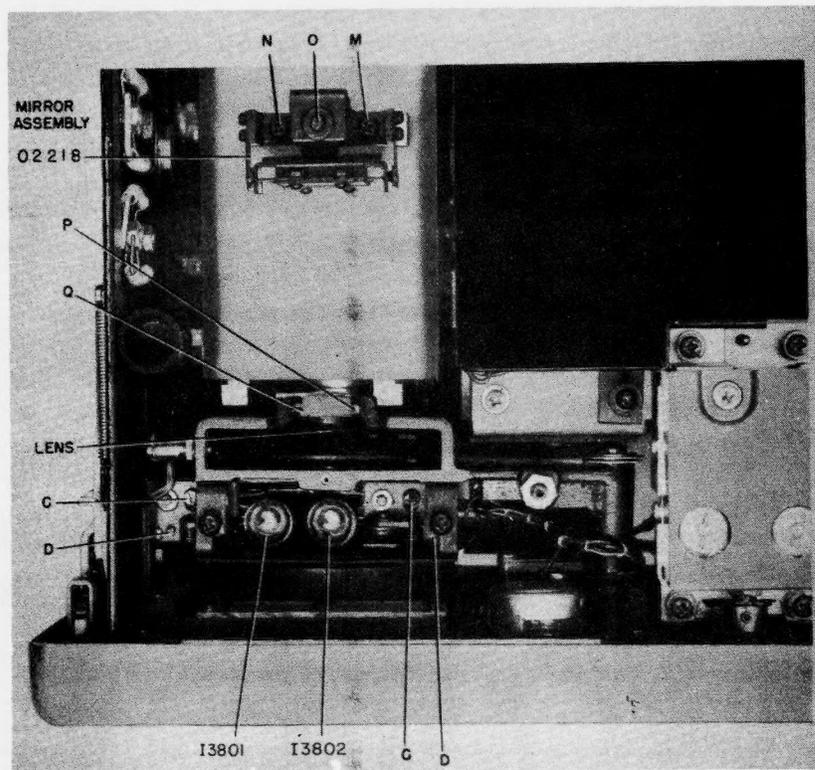

Figure 7-19. Lens-Arm Assembly and Dial Light Compartment, Cover Removed, Top View
4. Refer to figure 7-19. Either one of the two lamps can be placed in operating position by means of the LAMPS switch, S3801, a front panel control. There is one pair of red-headed screws C, D on each side of the lamp support frame. In each pair, the larger of the two screws (C) moves the corresponding lamp forward or backward, while the smaller screw (D) moves the lamp upward or downward. The lamp is centered properly when a paper held between the focusing lens and the mirror, perpendicularly to the light beam, will show a well-defined circular illuminated area.
(f) Refer to figure 7-19. Adjust the mirror assembly so that the vertical line of the projected dial coincides with the index line on the screen, and the upper one of the two short horizontal lines is about 1/32 inch below the top of the window (the end screws M, N that mount the mirror assembly will allow adjustment of the vertical line, and the screw O, directly behind the mirror will adjust the centering of the horizontal lines).